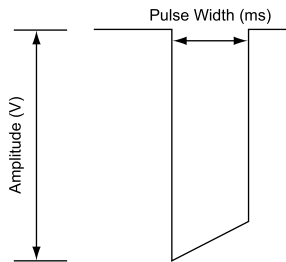

Figure 2-6. Pulse waveform
- The energy delivered to the heart is directly proportional to the Pulse Width; doubling the Pulse Width doubles the energy delivered. Therefore, programming a shorter Pulse Width while maintaining an adequate safety margin may increase battery longevity. To prevent loss of capture, exercise caution when you are programming permanent Pulse Width values of less than 0.3 ms (Figure 2-6 Pulse waveform on page 2-13).
The pulse amplitude, or voltage of the output pulse, is measured at the leading edge of the output pulse (Figure 2-6 Pulse waveform on page 2-13).